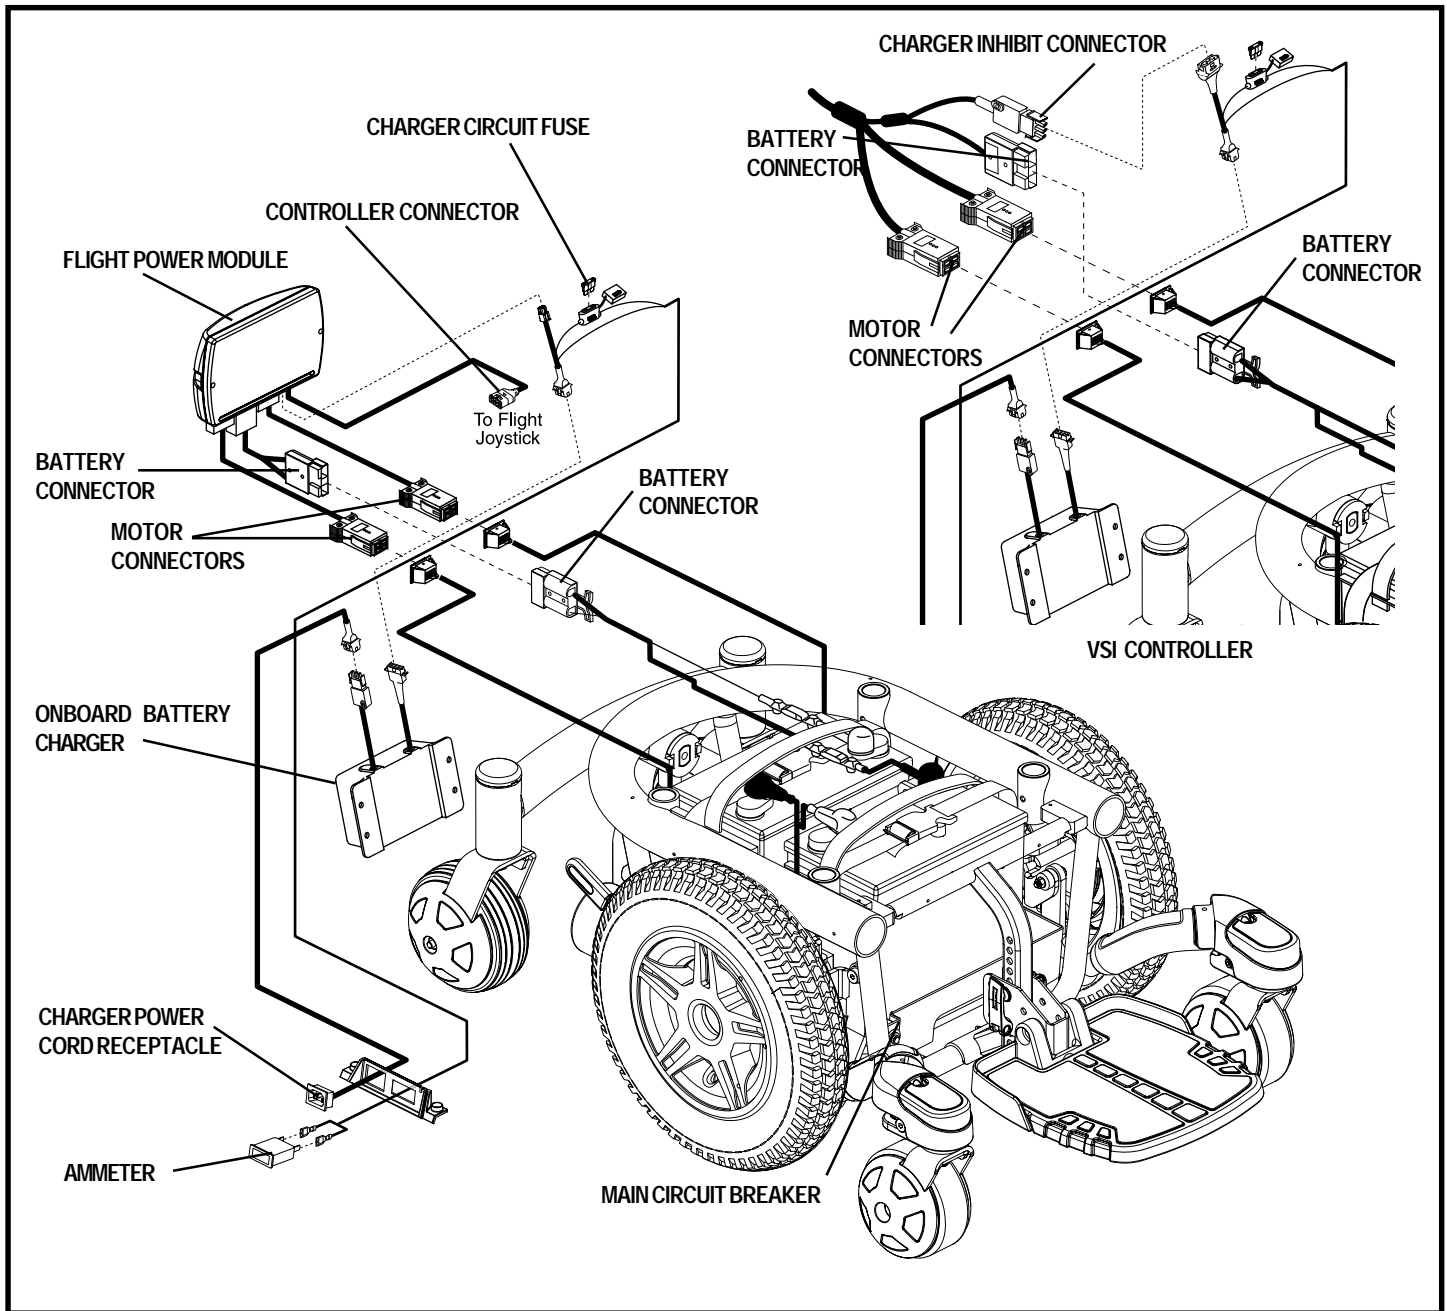

Figure 7. Quantum 600 XL Electrical Components (Shown with Optional Onboard Charger)
The electrical components are located inside the power base. The ammeter and the charger power cord receptacle for the optional onboard charger are located on the right side of the power base. The main circuit breaker is located on the front of the battery tray. The controller connector(s) are located inside the power base. See figure 7.
6. Plug the controller connector(s) into the power base. See figure 7.
3. Disconnect the controller connector(s) from the power base. See figure 7.